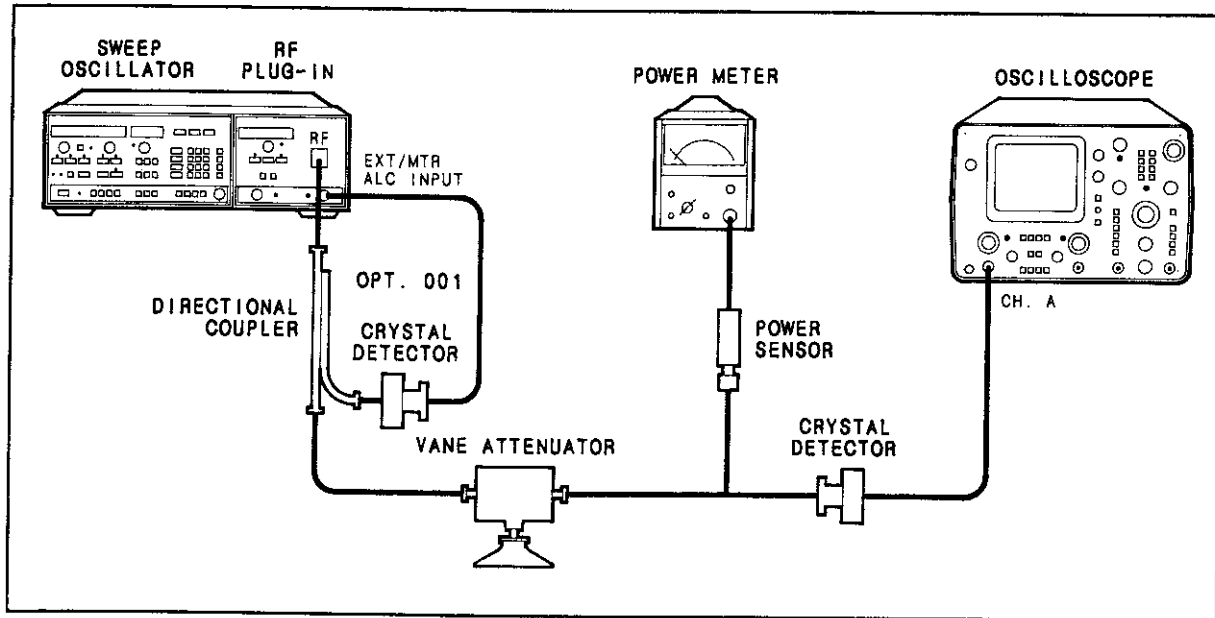

Figure 5-14. Internal Leveled Flatness Adjustment Setup
6. Turn the instrument LINE power off. Remove the A4 assembly from the extender board and reinsert A4 directly into the instrument. Turn on LINE power to the instrument. Connect the power meter sensor to the HP 83572A/B RF OUTPUT as shown in Figure 5-14.
1. Remove the A5 FM Driver Assembly from the Plug-In. Set the vane attenuator to 14 dB. Connect the power meter and sensor through the vane attenuator to the RF Plug-In as shown in Figure 5-14.
11. Replace the A5 FM Driver Assembly in the Plug-In. Connect the equipment as shown in Figure 5-14, with the crystal detector/oscilloscope monitoring the RF output. Press 8350A/B [INSTR PRESET] [SHIFT] [DET]. The trace displayed by the oscilloscope represents the flatness across the full sweep of the HP 83572A/B. Adjust the POWER LEVEL so the start of the oscilloscope trace coincides with the calibration line.